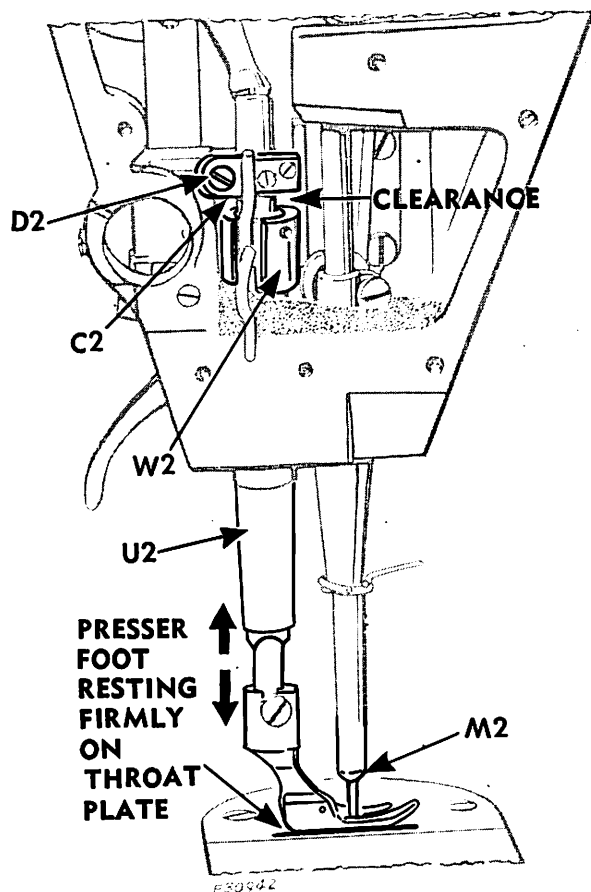

Fig. 47. Checking Height of
2. When presser foot rests firmly upon throat plate (with feed dog below throat plate) there should still be some clearance between presser bar position guide C2, Fig. 47 and lifting bracket W2, as shown in Fig. 47.
3. When presser foot is at its highest point and needle bar is at its lowest, top of presser foot should clear the lower end of needle bar M2, Fig. 47.
- Loosen clamping screw D2, Fig. 47.
- Raise or lower guide C2, Fig. 47 as required.
- Presser bar bushing U2, Fig. 47, should be set so that its top is even with top of lifting bracket W2, Fig. 47 when bracket is all the way down.